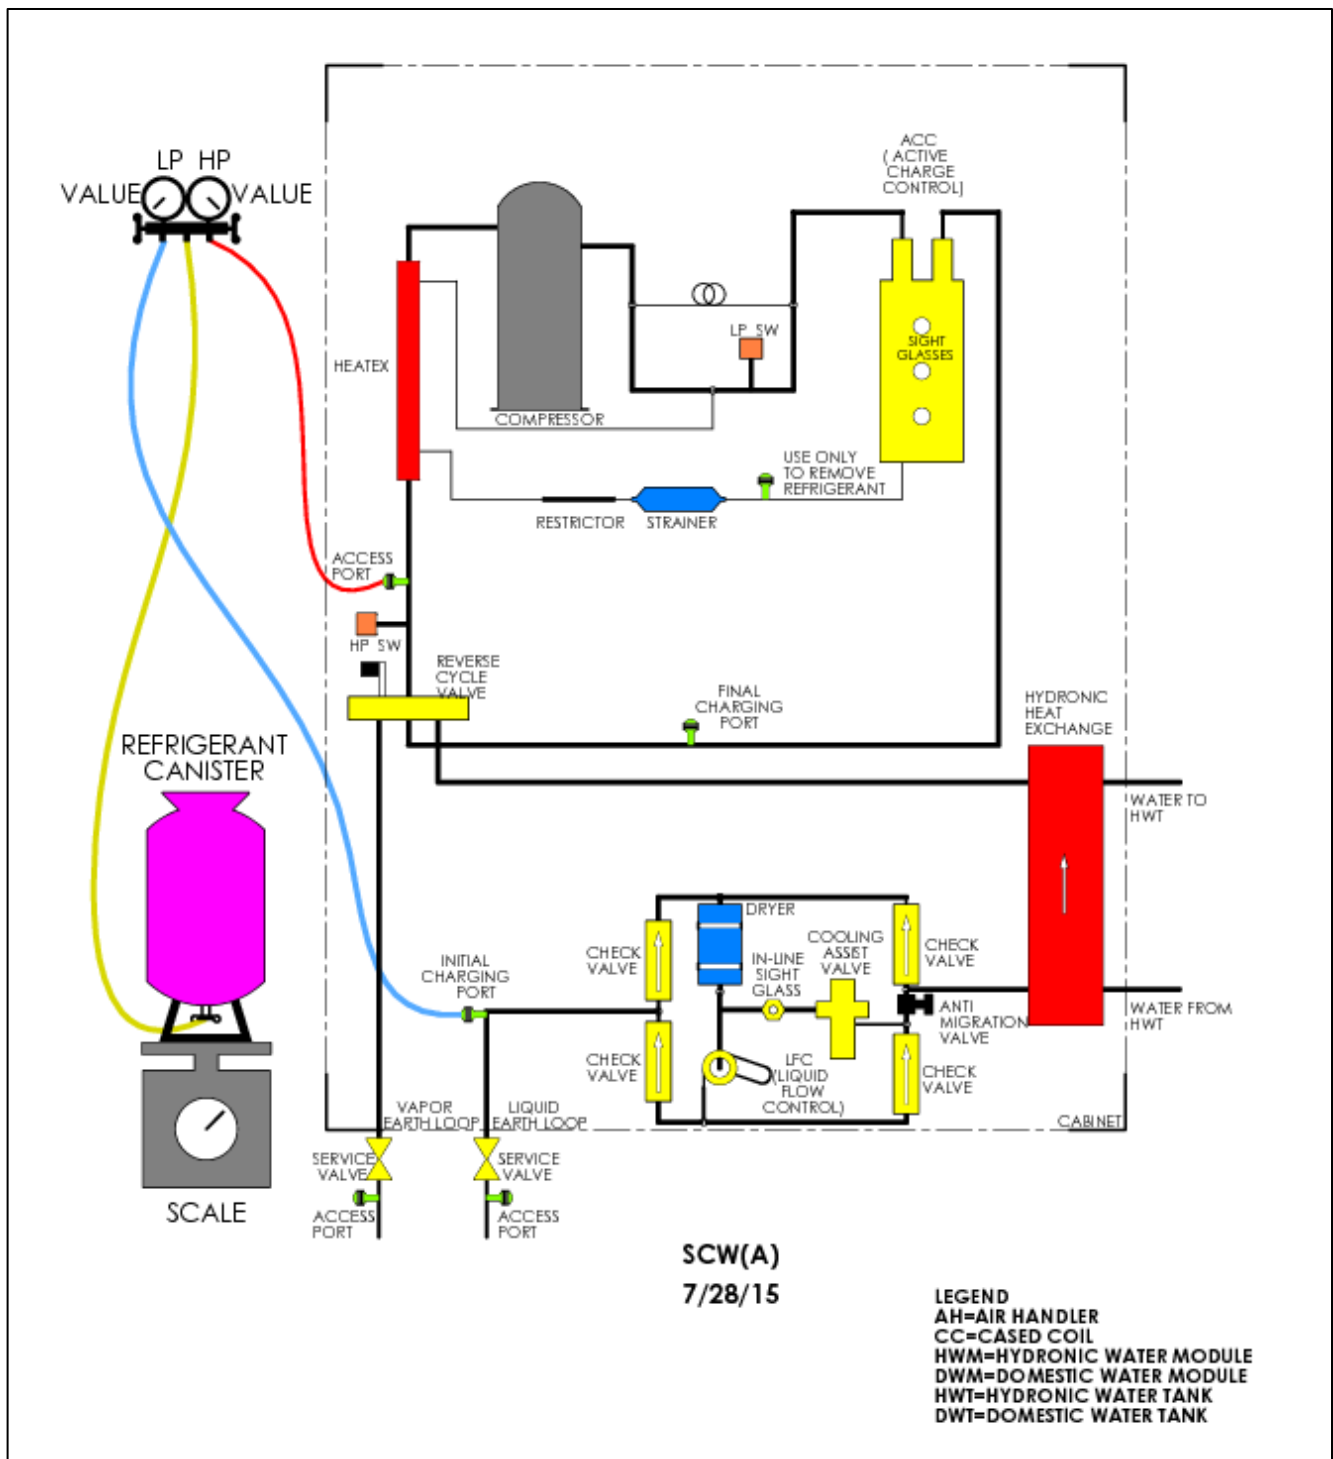

Figure 25. Initial Charge of SCW(A) System
1. Disconnect the vacuum pump and isolate the digital vacuum gage. Connect the refrigerant container to the charging hose of the manifold gage set as shown in Figure 25.
2. Place the refrigerant container upside down, with the refrigerant valve at the bottom, on the scale, as shown in Figure 25. Purge the charging hose by loosening it at the manifold end, until refrigerant is released. Tighten the charging hose and zero out the refrigerant scale.